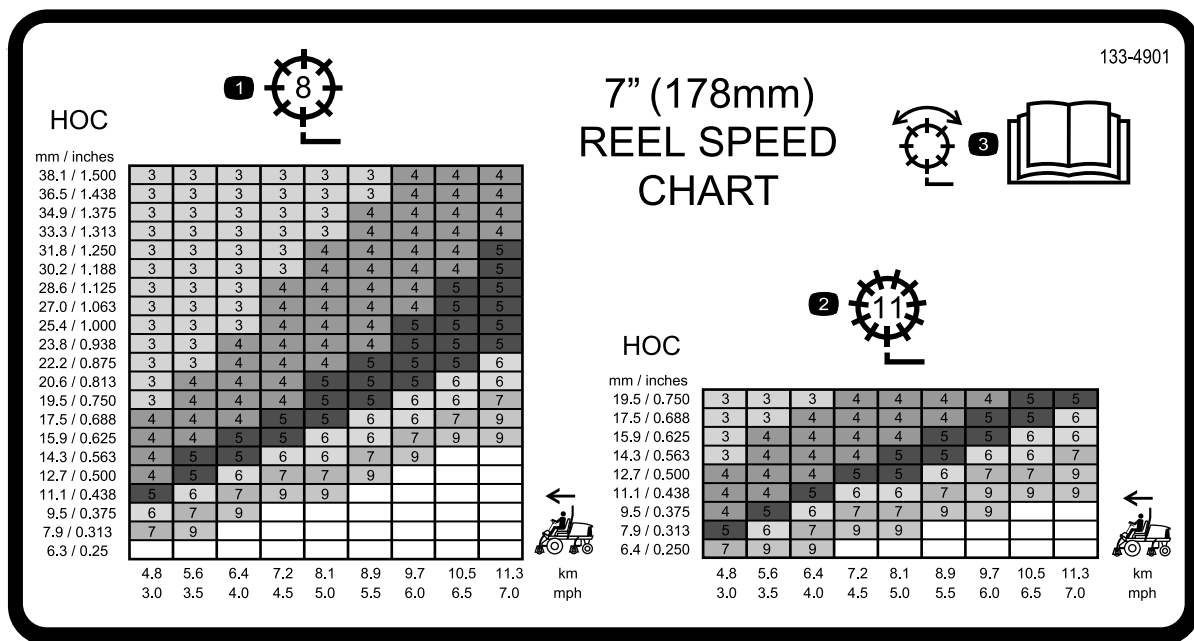

Figure 41
3. Use the graph on the reel speed chart decals (Figure 40 and Figure 41), to determine the proper reel speed setting.